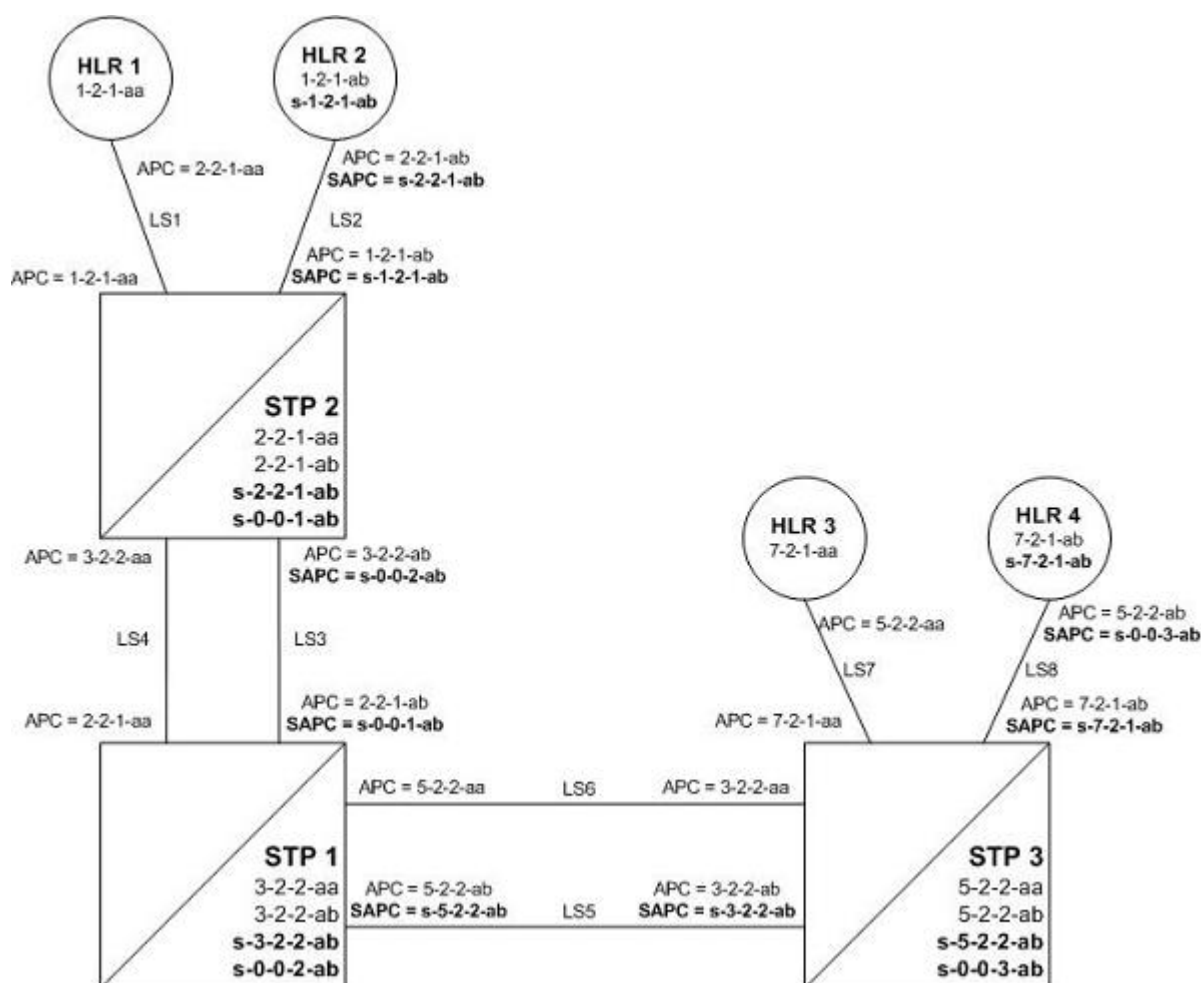

Figure 8: Stage One - ITU National and International Spare Point Code Support Feature Provisioned on All Nodes
Figure 8: Stage One - ITU National and International Spare Point Code Support Feature Provisioned on All Nodes shows an example network. The items shown in bold are items that are added during this stage of the migration procedure.
The following steps are performed for each node shown in *Figure 8: Stage One - ITU National and International Spare Point Code Support Feature Provisioned on All Nodes*, one at a time, as part of this stage of the migration procedure.
1. Upgrade each EAGLE shown in *Figure 8: Stage One - ITU National and International Spare Point Code Support Feature Provisioned on All Nodes* to the software release that contains the ITU National and International Spare Point Code Support feature by performing the appropriate upgrade procedure.
2. Enable the ITU National and International Spare Point Code Support feature on each EAGLE shown in *Figure 8: Stage One - ITU National and International Spare Point Code Support Feature Provisioned on All Nodes*, by performing the *Activating the ITU National and International Spare Point Code Support Feature* procedure. Do not turn the feature on at this time.
After Stage One has been completed, as indicated in Figure 8: Stage One - ITU National and International Spare Point Code Support Feature Provisioned on All Nodes, linksets LS2, LS3, LS5, and LS8 are capable of supporting traffic to and from both ITU-National and ITU-National spare point codes. Routing decisions, however, are still made using the Duplicate Point Code rules, as the ITU National and International Spare Point Code Support feature has not been turned on.